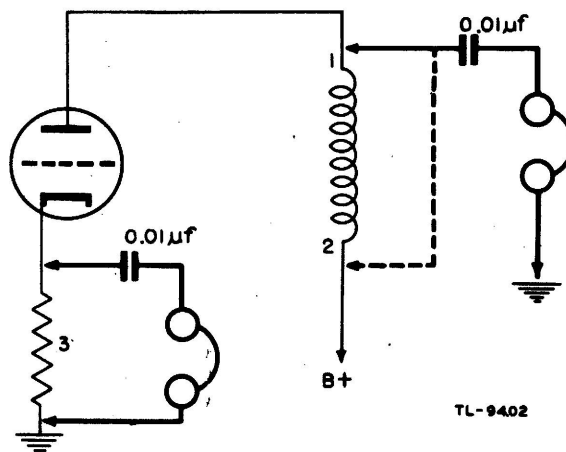

Fig 1. Use of a headset and capacitor for checking circuits
b. **Checking Voltage Without Meter.** If a meter is not available for checking the presence of voltages, a headset may be used (fig. 1). Connect
(1) Connect the test end of the headset and capacitor from ground to point 2. The click that will be heard is caused by the source voltage. Then connect the test end to point 1. If a click is not heard, the element is open.
(2) To test for shorts, connect the headset and capacitor across the element 3 in figure 1. If no click is heard, the element is shorted.